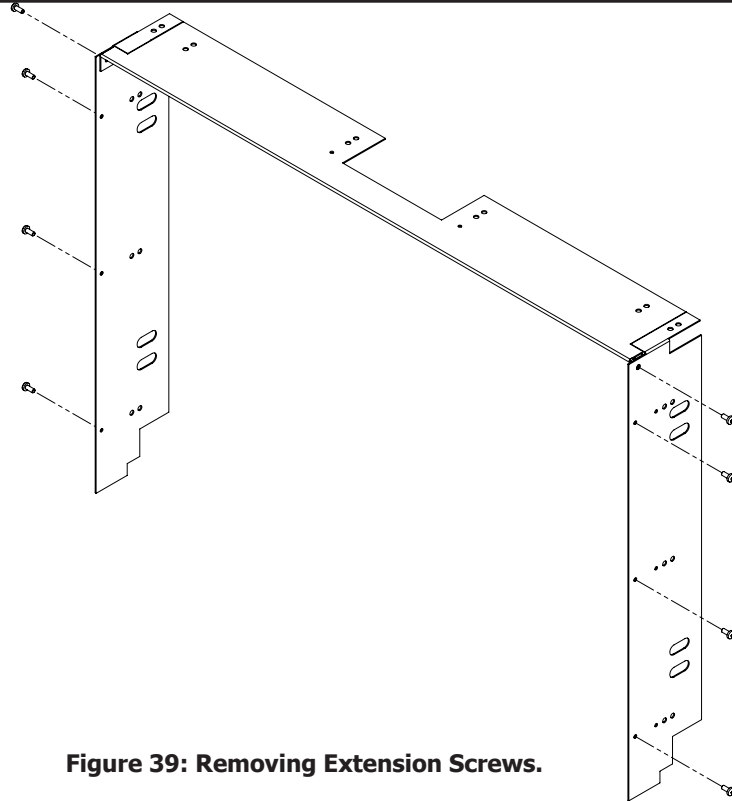

Figure 39: Removing Extension Screws.
1. Remove the four (4) screws from the outside of the Right Side Extension (see Figure 39).